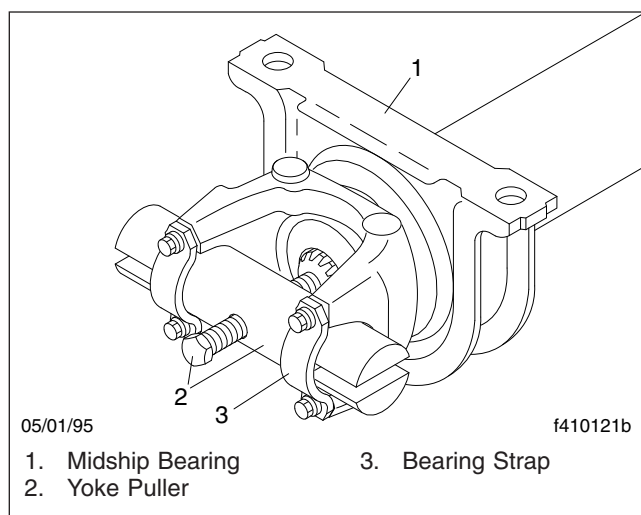
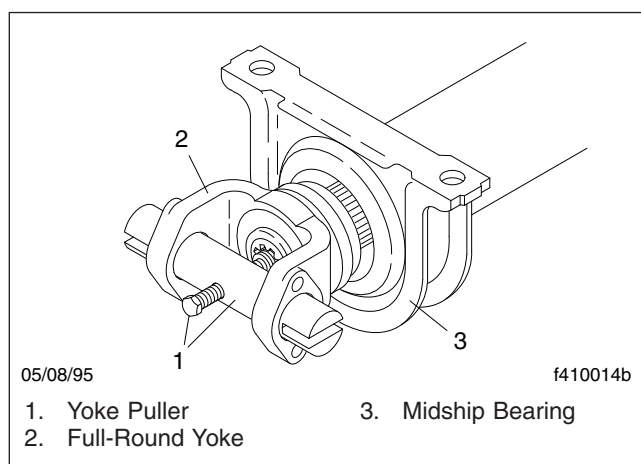

Fig. 4, Remove a Half-Round End-Yoke from a Coupling Shaft
Fig. 5, Remove a Full-Round End-Yoke from a Coupling Shaft
- 9.3 If the U-joints are out of phase on a coupling shaft, uncouple the U-joint from the coupling shaft end-yoke, then remove the end-yoke nut. Remove the end-yoke, using a yoke puller. See **Fig. 4** for a half-round end-yoke, or see **Fig. 5** for a full-round end-yoke. Align the end-yoke, then